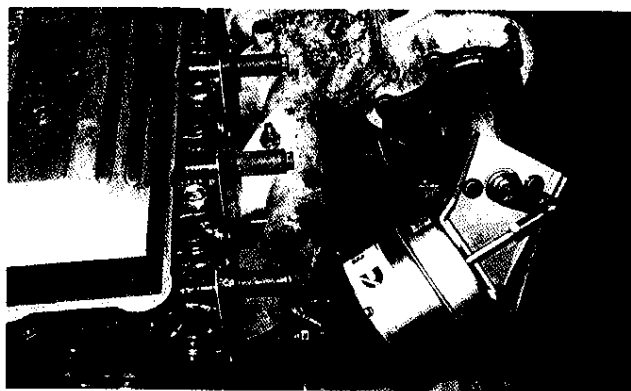

Fig. 5
- a. Install the exhaust brake with the new gasket and 5 capscrews supplied in the kit (Fig. 5 & 6). Tighten all the screws finger tight. Then torque the screws in a cross pattern to 18 ft-lbs.